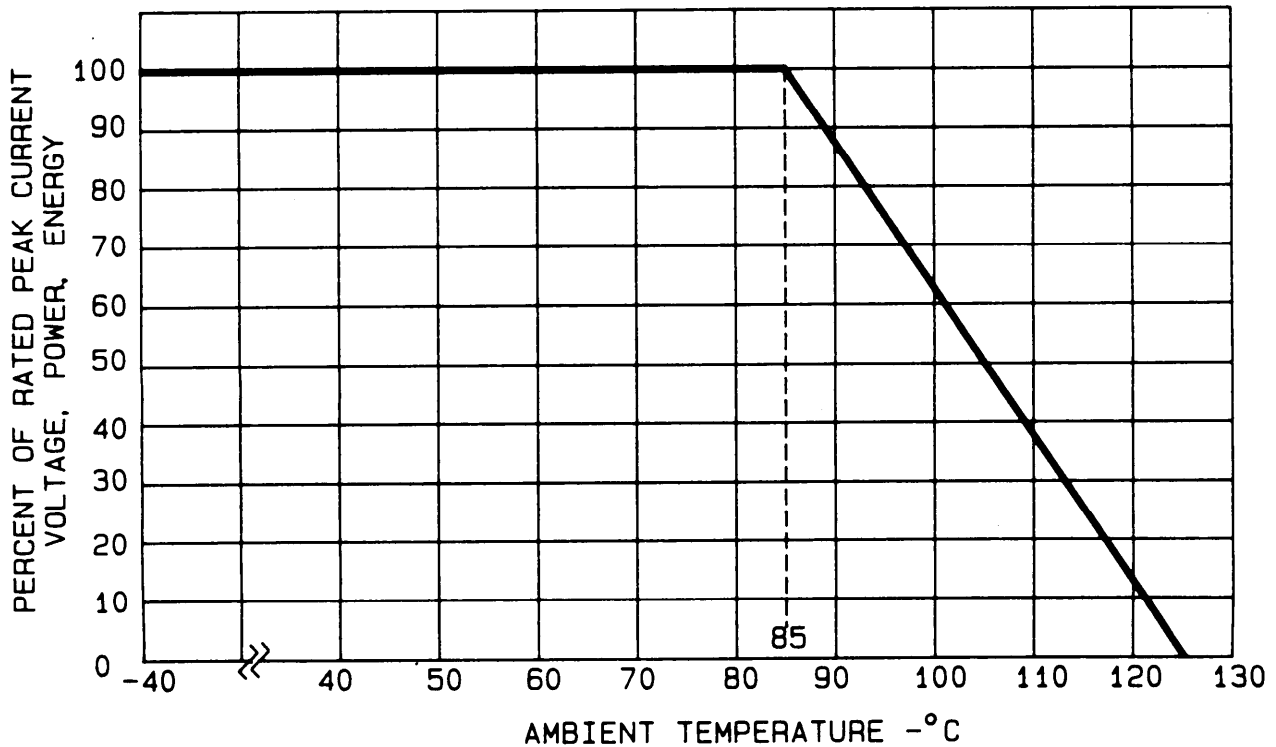

FIGURE 503-1. Current voltage, power, energy rating vs temperature.
2.1.2 Power rating. The average power dissipation rating applicable to parts covered by this specification shall be 1.0 W at +85°C. For varistors operated at ambient temperatures in excess of +85°C, the voltage shall be derated in accordance with figure 503-1.